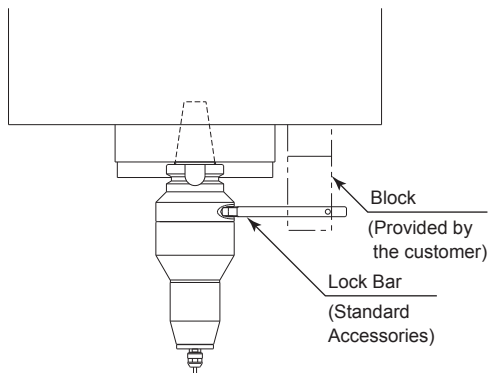

Fig. 19
- The Block shown in the Fig. 19 is not provided with the Brushless Motor Spindle, it must be provided by the customer.